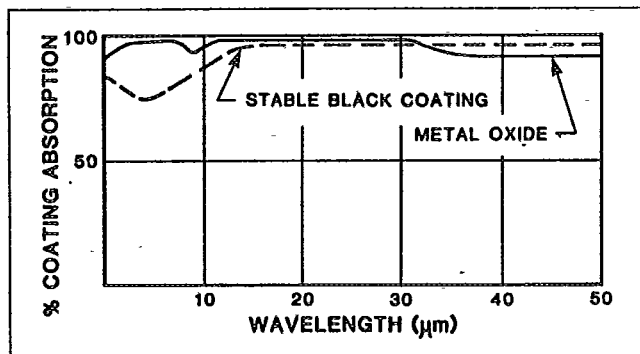

Fig. 2 Absorptivity of our Thermopile coatings.
- The **Stable Black Coating** is an organic paint which is absorptive from 0.2 to beyond 50 μm , but with slightly reduced absorptivity from 1 to 15 μm . (Fig 2.) Thermopiles with this coating can be used without windows or with interchangeable windows to reduce the effects of air currents. Our housings have holders for our 10 mm diameter 1 mm thick windows. The window transmission may influence the spectral response.